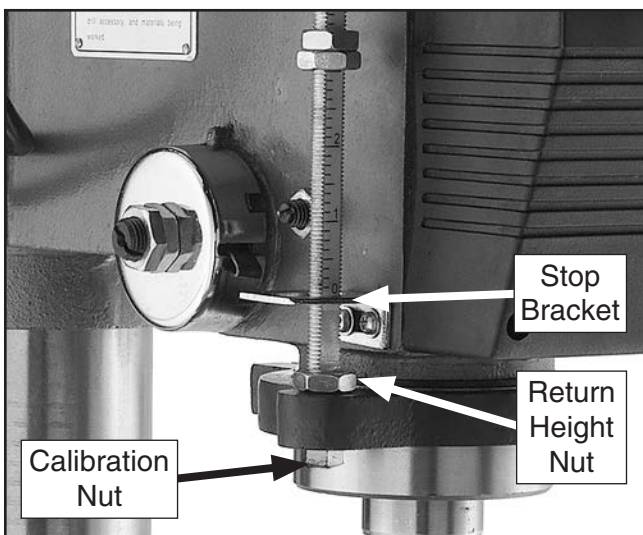

Figure 43. Depth stop assembly.
1. Loosen the return height nut and calibration nut shown in **Figure 43**.